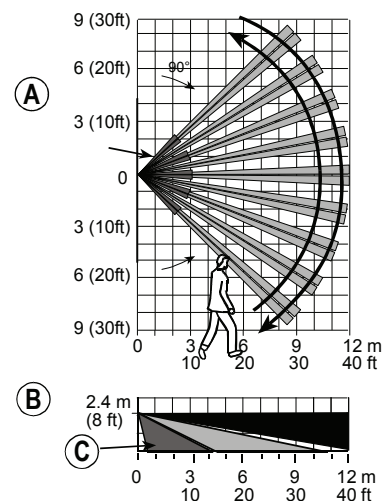

Fig. 2. Coverage Pattern & Walk-test
- Walk-test the coverage area - see fig. 2. Walk across the far end of coverage pattern in both directions, The red LED lights each time your motion is detected followed by 3 LED blinks. The following table indicates received signal strength indication.